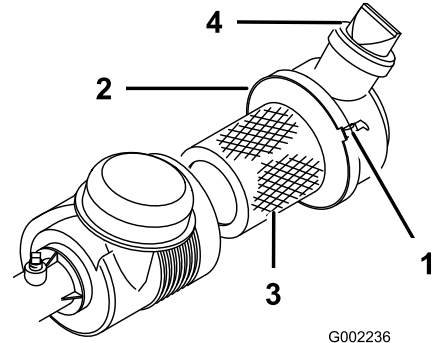

Figure 39
Check the air cleaner body for damage that could cause an air leak. Ensure that the dust cap is tightly sealed onto the air cleaner. Replace a damaged air cleaner body. Squeeze the valve (Figure 39) before each use to clear it of dust and debris.
3. Loosen the air cleaner strap that secures the air cleaner cover to the air cleaner body (Figure 39) and separate the cover from the body.
7. Secure the straps (Figure 39).
4. Install the cover with the valve pointing down and secure the straps (Figure 39).